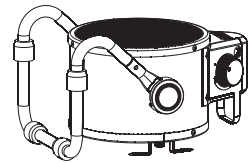

Figure 5
3. Ensure the foot assembly is correct like on figure 5.